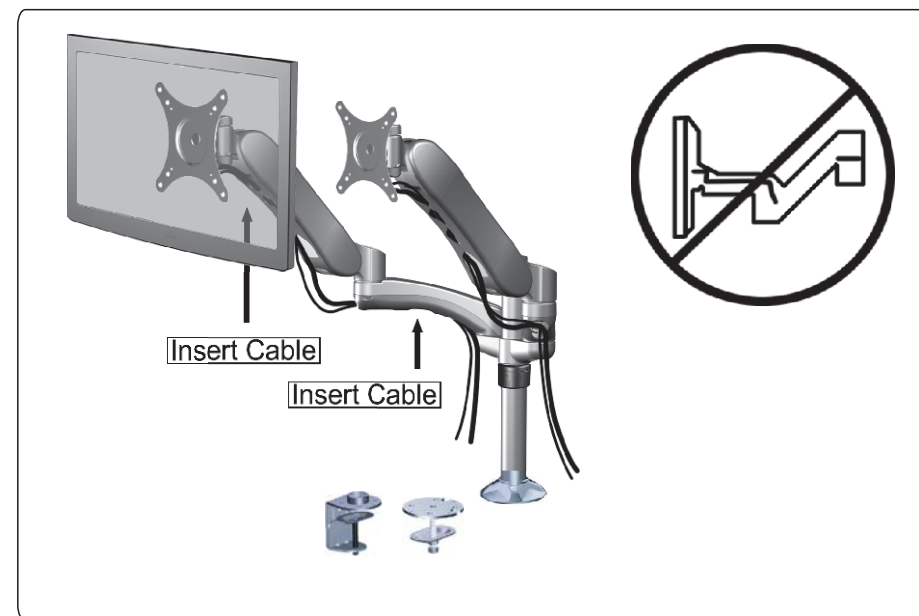

Figure 4-1
1. Connect cables to display monitor. Position the display at its highest position to ensure that there is sufficient cabling at the end of the Arms so that the cables are not stretched or pulled out when the display is moved. (See Figure 4-1)